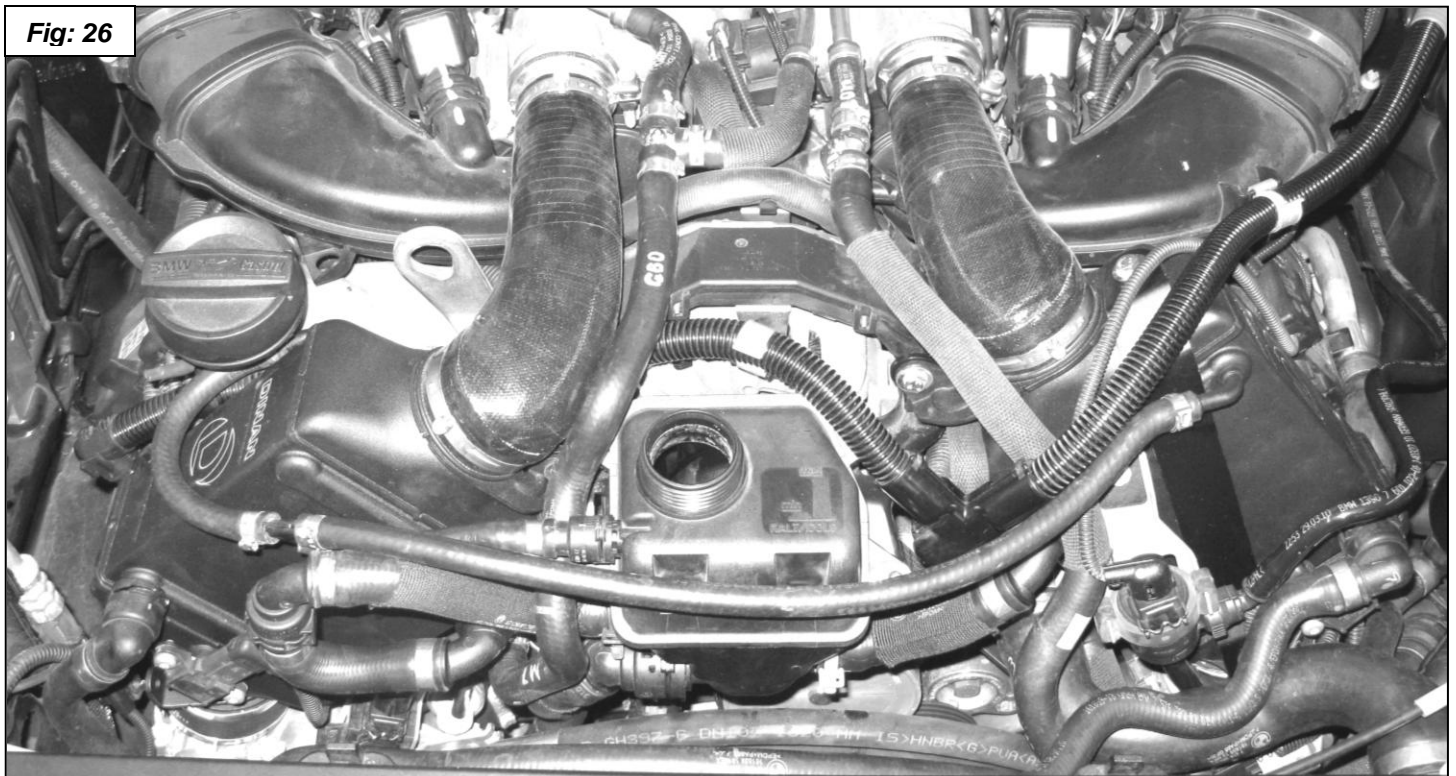

Fig: 26
22. Connect the two hoses from the pump to the outer nipples on the intercoolers as shown in figure 26.